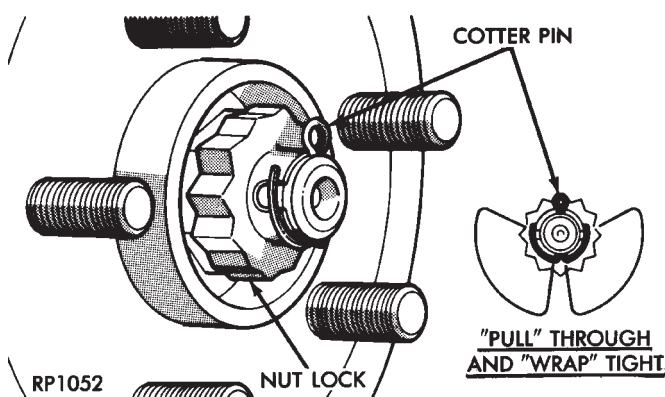

Fig. 18 Install Spring Washer, Nut Lock, & Cotter Pin
(12) Install the spring washer, hub nut lock, and new cotter pin. Wrap the cotter pin prongs tightly around the hub nut lock (Fig. 18).
(13) Install the front wheel and tire assembly. Install the front wheel lug nuts and torque to 129 N•m (95 ft.lbs.).